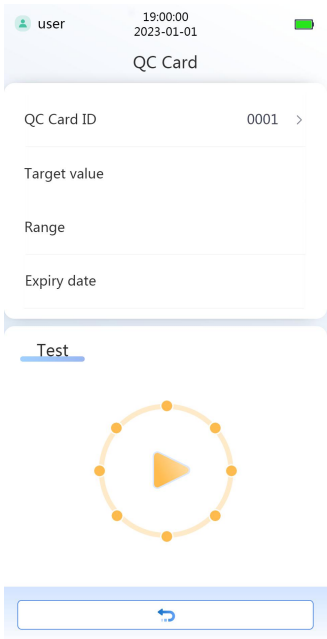

Figure 13 QC card testing interface
11. Click the QC card button  in the QC interface to enter the QC card operation interface (Figure 13 below), which has the function of detection. After inserting the QC card, the corresponding QC information is automatically filled into the filling box, and then the testing process begins.